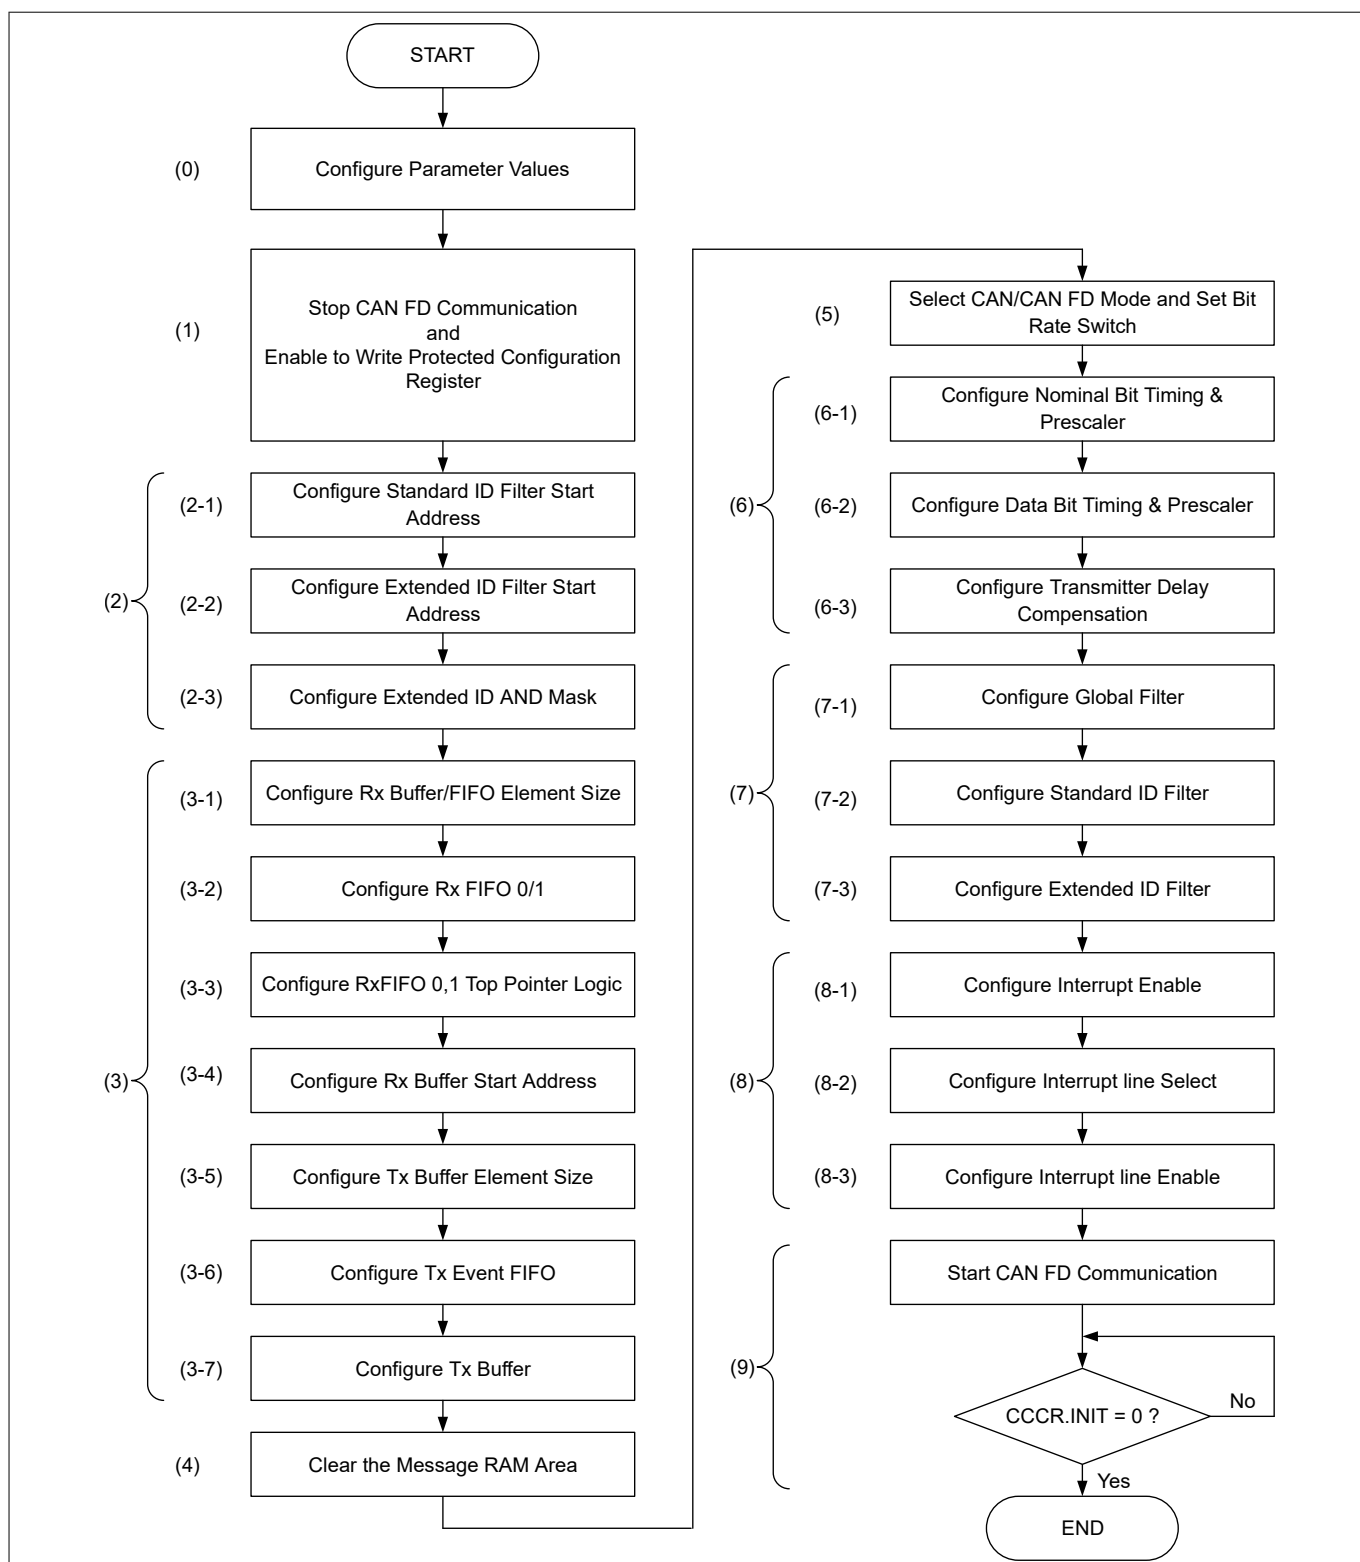

Figure 5 Example of CAN FD initialization flow
Figure 5 shows the flow to initialize the CAN FD controller. In this flow, (0) is performed in the configuration part, and (1) to (9) are performed in the driver part.
(0) Configure the parameter values according to the system.
(1) Set initialization register (CCCR.INIT) to “1” and stop CAN FD communication. Then, enable the Configuration Change Enable register (CCCR.CCE) to enable write access to the write-protected CAN FD configuration registers.
(2) Configure the number of elements of the message filter and the start address offset in the Message RAM with the Standard ID Filter Configuration (SIDFC) register and the Extended ID Filter Configuration register (XIDFC). Configure the Extended ID AND Mask (XIDAM) register for masking the ID bits that are not to be used for extended ID message acceptance filtering.
(3) For Rx and Tx messages, configure the element size of the Rx FIFO and start address offset in Message RAM with the Rx FIFO 0 Configuration (RXF0C) register and Rx FIFO 1 Configuration (RXF1C) register. The Rx FIFO Top pointer logic is enabled/disabled by setting the RXFTOP_CTL register.